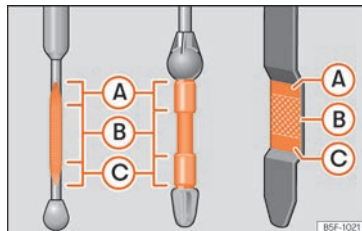

Fig. 244 Engine oil dipstick.
- Then pull it out once more and check the oil level » **Fig. 244**. Top up with engine oil if necessary.
- When the oil level reaches at least zone »» **Fig. 244 (B)**, unscrew the engine oil filler cap carefully »» **ⓘ**.
If the oil level is above area »» **Fig. 244 (A)**, do not start the engine. This could result in damage to the engine and catalytic converter. Contact a specialised workshop.
The oil level must never be above zone »» **Fig. 244 (A)**. Otherwise oil can be drawn in through the crankcase breather and leak into the atmosphere via the exhaust system.